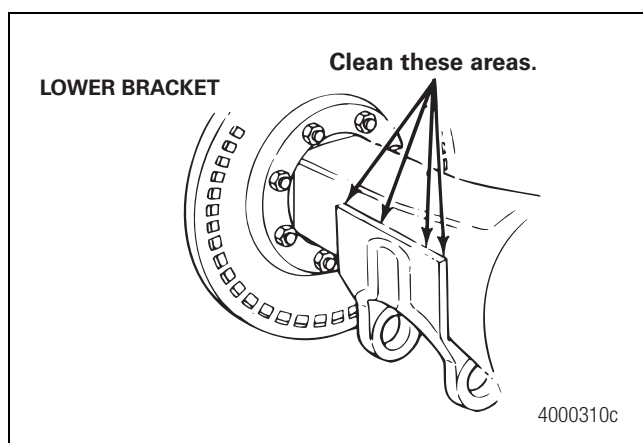
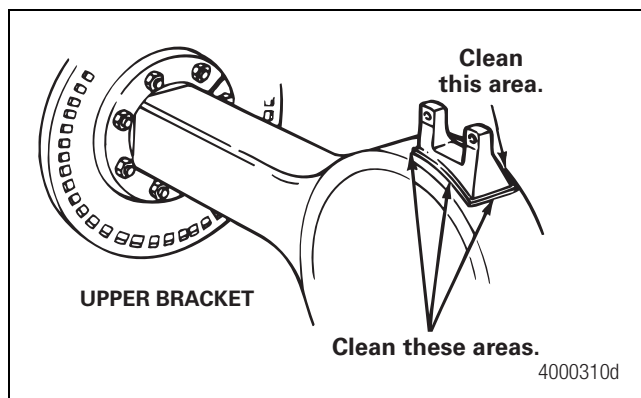

Figure 3.2
Figure 3.3
5. For suspension bracket welds, clean both lower and upper suspension brackets and the areas of the axle housing around each bracket. Use a wire brush and a cleaning solvent that will remove dirt and grease from these areas. Figure 3.2 and Figure 3.3.